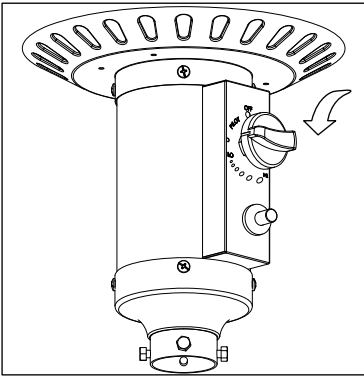

Figure 3
- Push in control knob and turn counterclockwise to "PILOT" or until the knob stops (Figure 3).